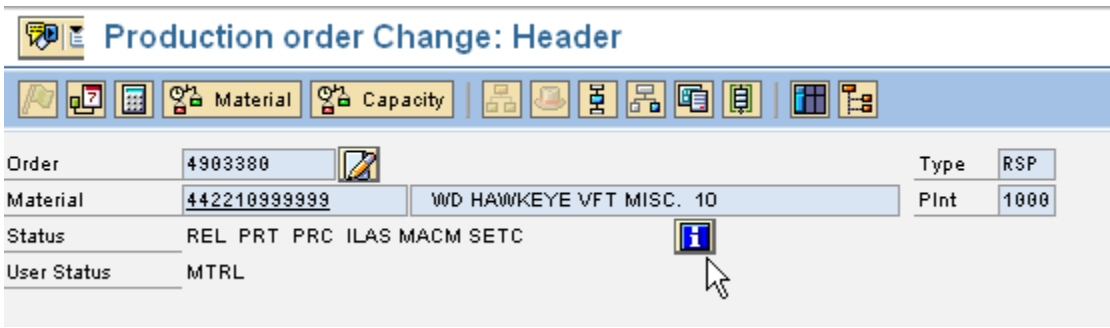

Fig. 3
5.6. Click on the "Status" icon  to display the Change Status screen (Fig. 3)